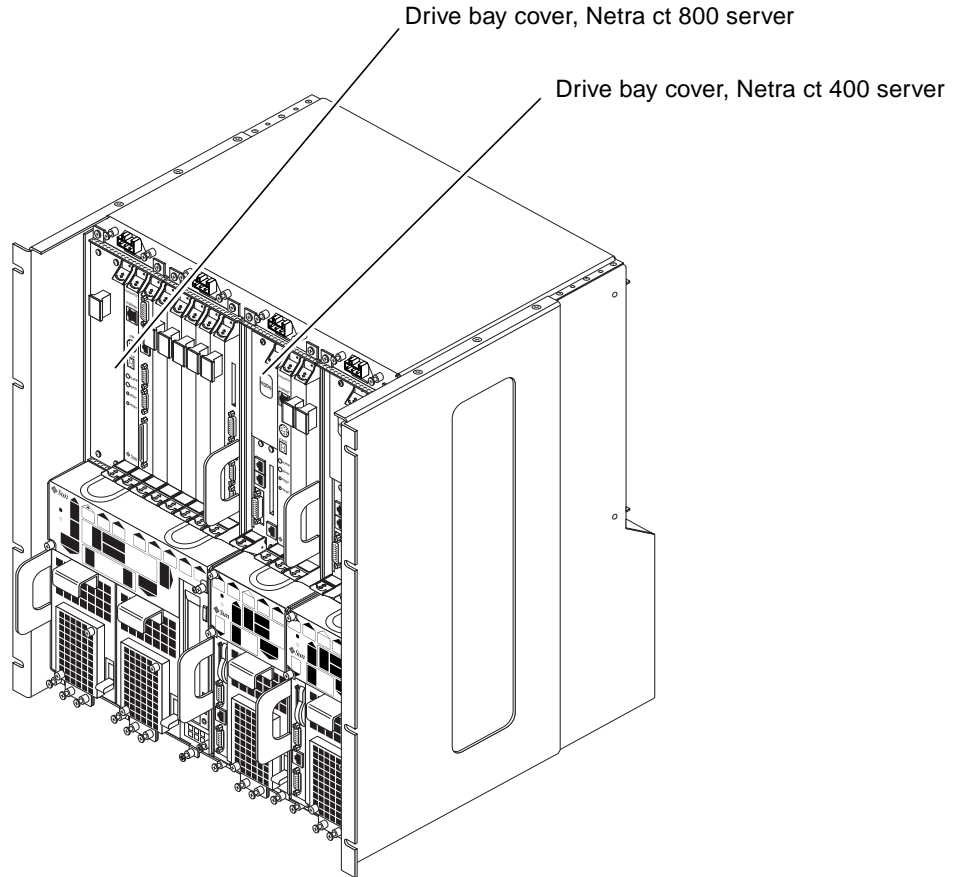

FIGURE 7-1 Drive Bay Cover Locations
- 15. Secure the drive bay cover over the drive bays (FIGURE 7-1 on page 7-3).**
2. **Remove the drive bay cover (FIGURE 7-1 on page 7-3).**